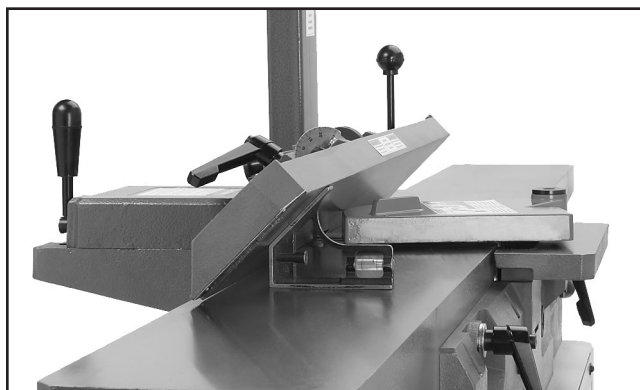

Figure 61. Fence adjusted 45° inward.
1. Tilt the fence approximately 45° inward (**Figure 61**) onto the positive stop bolt.